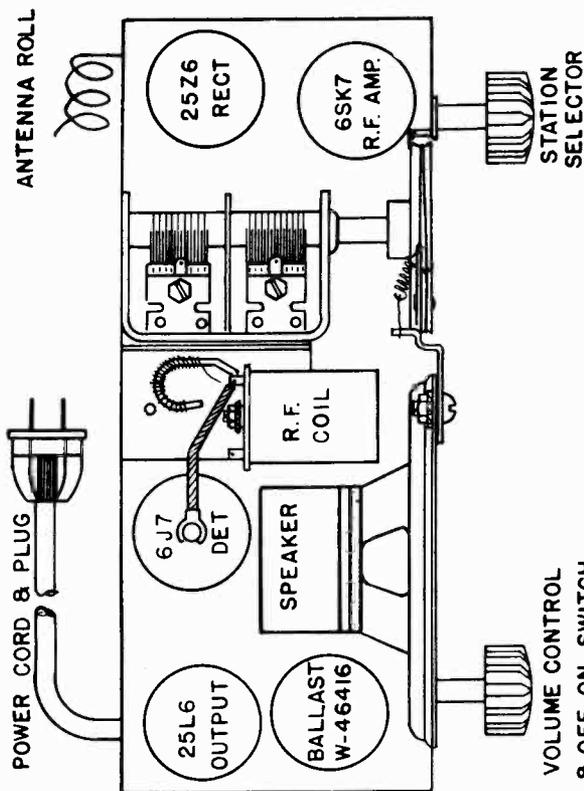

Fig. 2—Top View Chassis Model 10
(d) Adjust the 2nd I-F trimmer condenser, item 7, located in top of 2nd I-F assy., (Fig. 2) for maximum reading on the output meter.
(e) Adjust the 1st I-F trimmer condensers, item 6, located on top of 1st I-F assy., (Fig. 2) for maximum output.
Some chassis of this model are equipped with a wave trap for the purpose of eliminating interference from code stations which operate on a frequency of approximately 455 kilocycles. This assembly is located on the loop mounting bracket (Fig. 2) and consists of a coil and a trimmer condenser as illustrated by the dotted lines in the Wiring Diagram (item 45).